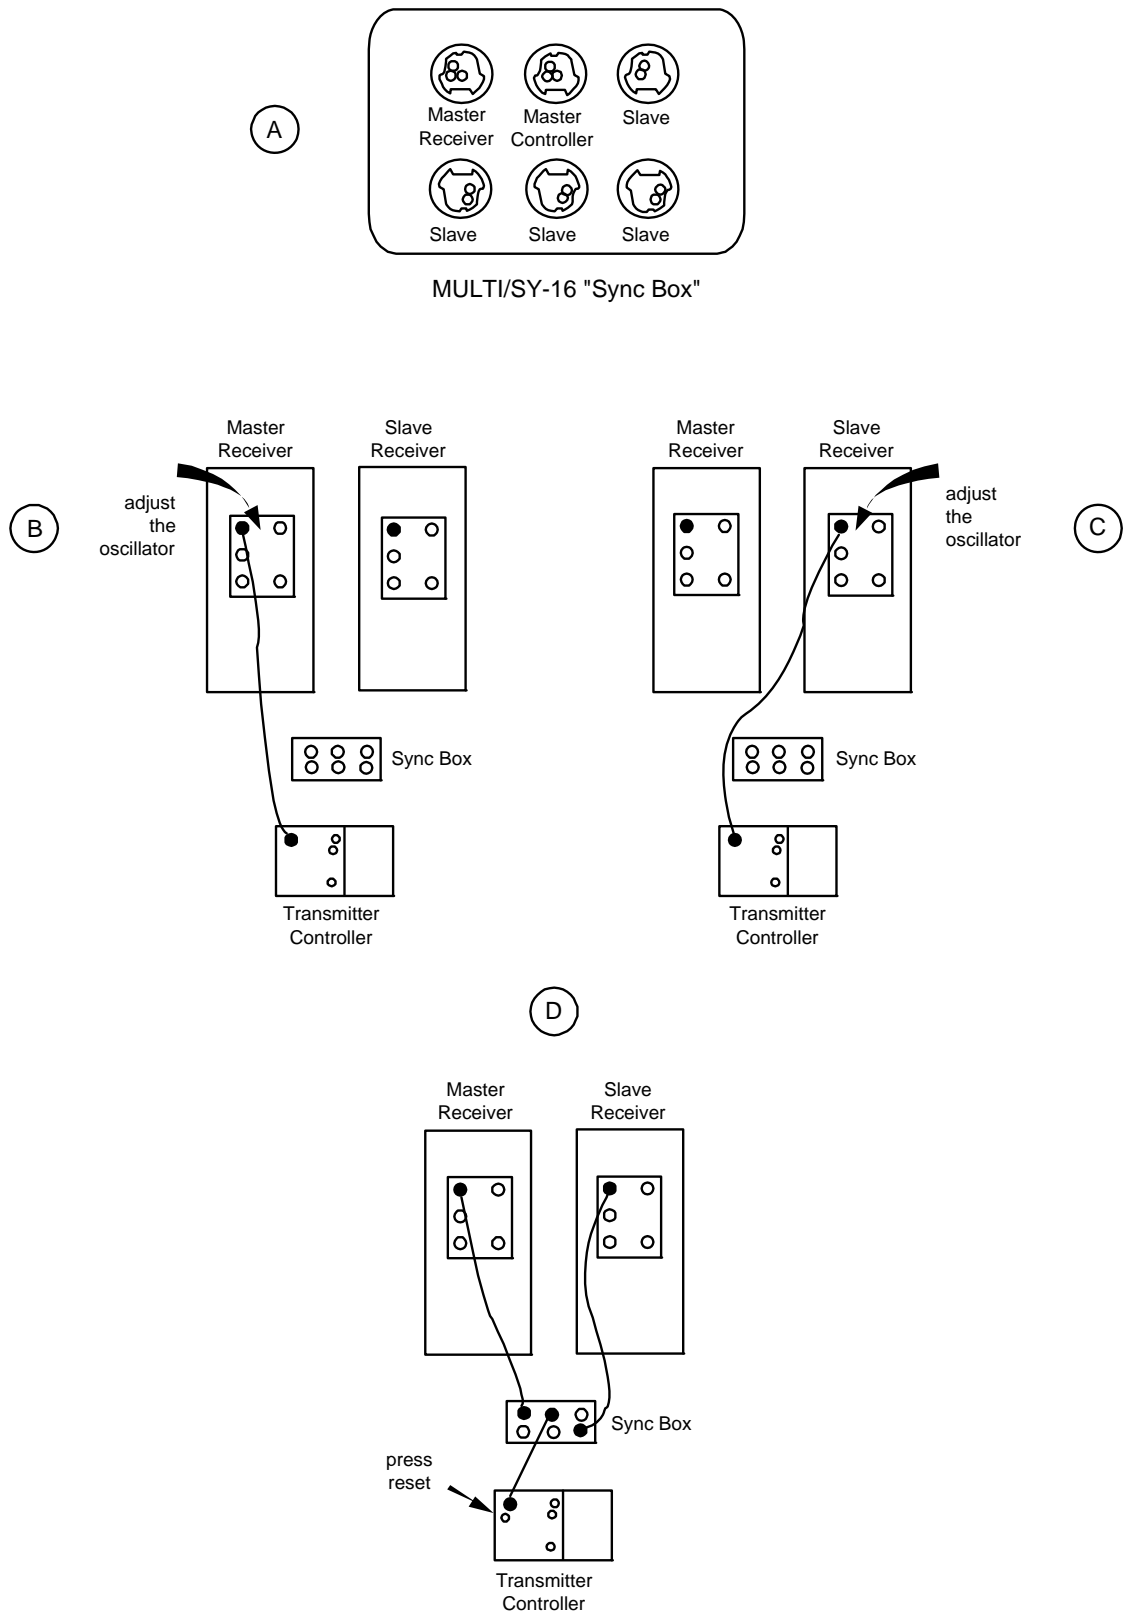

Figure 6.5 - Synchronizing a multiple-receiver system with the older MULTI/SY-16 Synchronization Box.
1. Obtain a MULTI/SY-16 Sync Box (Figure 6.5(a)) and extra synchronization cables (one per receiver) from Zonge. Designate one receiver as master and the rest as slave receivers. It doesn't matter which one is master or slave.
2. Connect a synchronization cable between the Transmitter I/O port of the master GDP-32 receiver and the transmitter controller's I/O port, as shown in Figure 6.5(b).
4. Remove the synchronization cable from the master receiver and attach to the slave receiver. Refer to Figure 6.5.
6. Make attachments as shown in Figure 6.5(d), being careful to connect the receivers and transmitter controller to the proper ports on the Sync Box.
1. Adjust all receivers individually, using the master transmitter controller as shown in Figure 6.5 (b) and (c).
4. Set up as in Figure 6.5(d), with an additional cable between the slave controller's I/O port and any slave port on the Sync Box.
2. Connect the calibration output of one controller to channel 2 and the other controller to channel 3, with channel 1 connected to the GDP calibration output as shown in Figure 6.5(d).